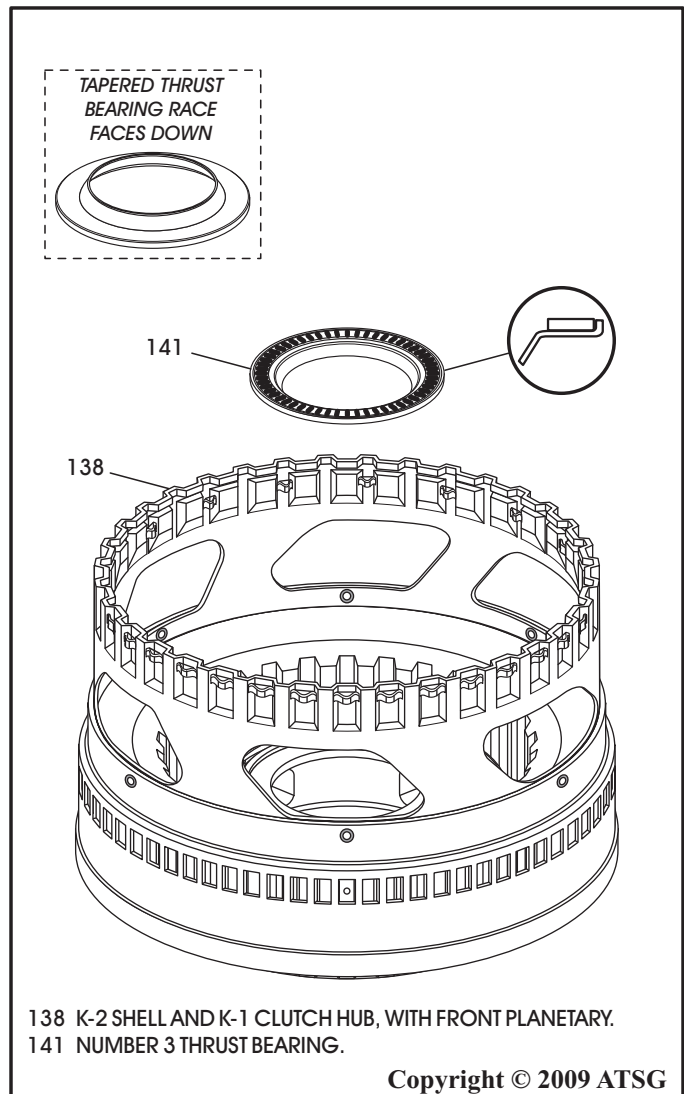

Figure 116
33. Turn the K-2 shell over and install the number 3 thrust bearing, as shown in Figure 116.
Note: The tapered thrust bearing race faces down, as shown in Figure 116.